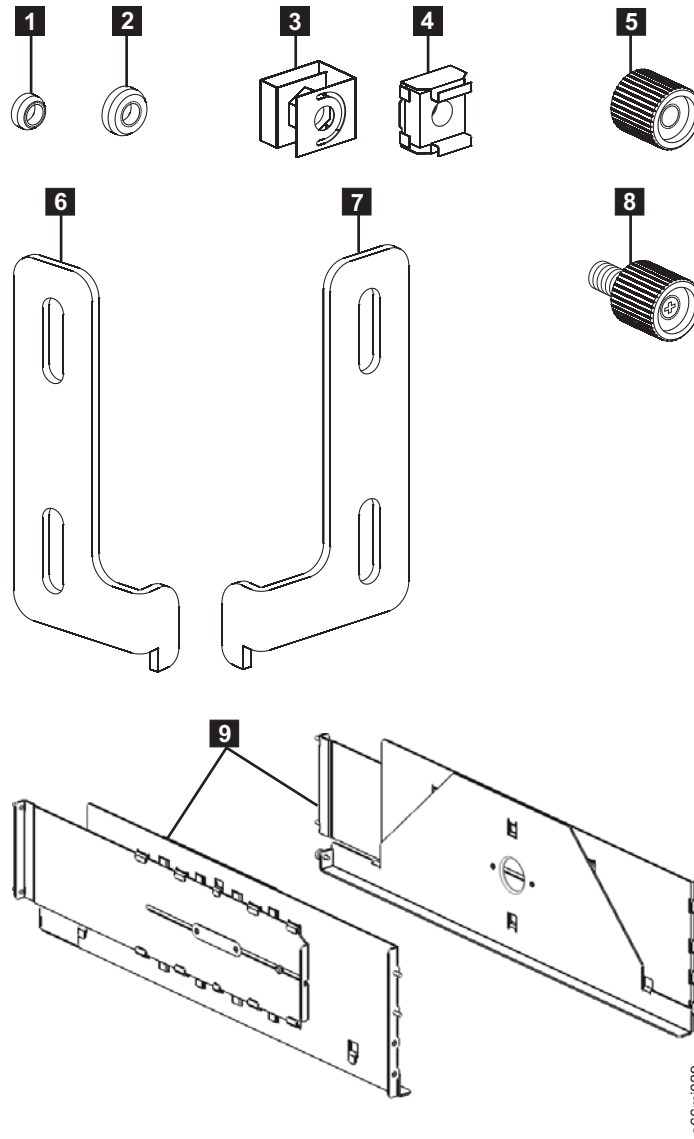

Figure 3-12. Rack mount kit hardware (parts not sized proportionately in figure)
16	Centering nuts: <ul style="list-style-type: none"> • 8 for racks with round holes (1 in Figure 3-12) • 8 for racks with square holes (2 in Figure 3-12)
8	Black thumb nuts (5 in Figure 3-12)
2	Rack ears (6 and 7 in Figure 3-12)
4	Rack ear screws (8 in Figure 3-12)
2	Rails (9 in Figure 3-12)
8	Clip/Cage nuts: <ul style="list-style-type: none">• 4 clip nuts for racks with round holes (3 in Figure 3-12 on page 3-11)• 4 cage nuts for racks with square holes (4 in Figure 3-12 on page 3-11)
2	Rack ears (6 and 7 in Figure 3-12 on page 3-11)
4	Rack ear screws (8 in Figure 3-12 on page 3-11):
The rails (**9** in Figure 3-12 on page 3-11) in the rack mount kit are used to support the bottom unit of your library, and require 5 EIAs (or 15 holes) of vertical rack space. However, there are only 4 rail studs on each rail, which is positioned in a staggered manner for increased stability. For correct installation, you must first
3. Install clip nuts (**3** in Figure 3-12 on page 3-11) for vertical rack rails with round holes or cage nuts (**4** in Figure 3-12 on page 3-11) for vertical rack rails with square holes in the front rack rails in the marked positions.
5. Install clip nuts (**3** in Figure 3-12 on page 3-11) for vertical rack rails with round holes or cage nuts (**4** in Figure 3-12 on page 3-11) for vertical rack rails with square holes in the front rack rails in the marked positions.
- Use the round hole-centering nuts (**1** in Figure 3-12 on page 3-11) for vertical rack rails with round holes.
- Use the square hole-centering nuts (**2** in Figure 3-12 on page 3-11) for vertical rack rails with square holes.
- b. Place a thumb nut (**5** in Figure 3-12 on page 3-11) on each stud and tighten.